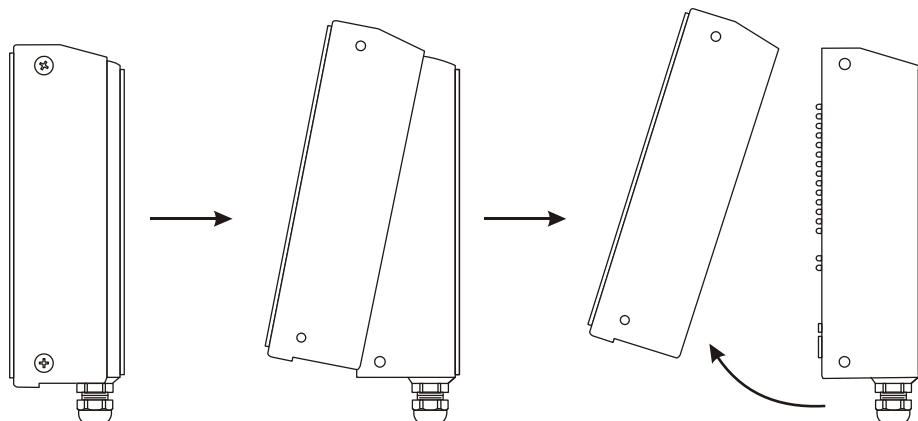

Figure 3.1 Opening the XR 4500 / 4500TL / 6500 (side view)
3. Slowly, guide the front cover off of the main enclosure. See Figure 3.1.